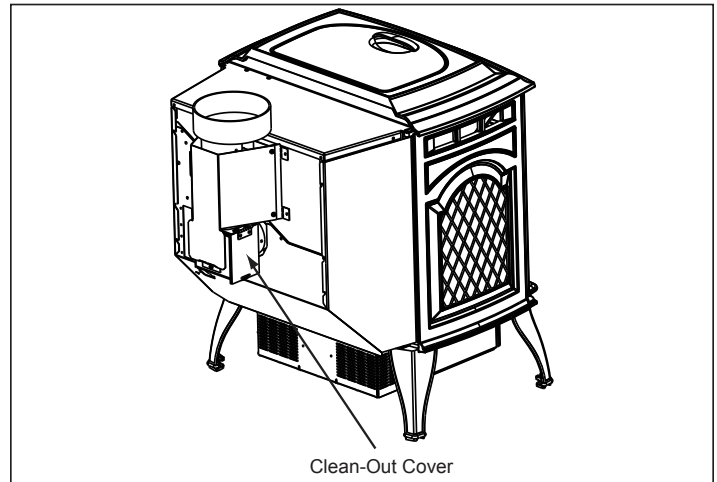

Figure 15.1
- b. Open the clean out cover. **See Figure 15.1.**